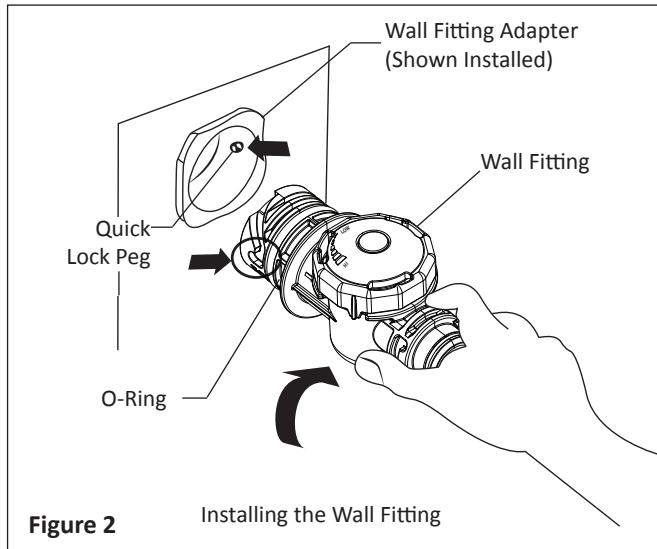

Figure 2 **Installing the Wall Fitting**
5. Insert wall fitting adapter into the dedicated 1-1/2" NPT threaded return line. Hand tighten until snug. See **Figure 2**.
6. Align wall fitting with the quick lock pegs inside the wall adapter. Push the wall fitting into the wall adapter until it bottoms out. Twist 1/4 turn clockwise to lock the wall fitting. **Pull gently outward to engage quick lock pegs.** See **Figure 2**.